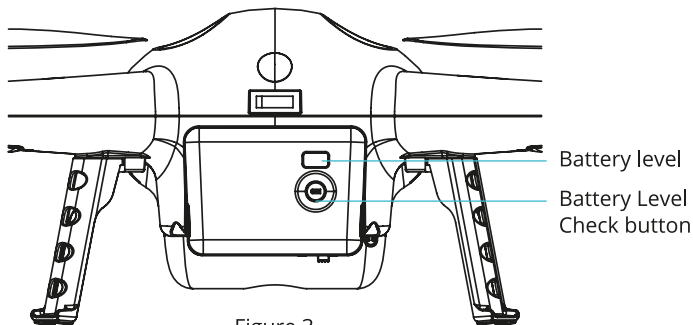

Figure 3
- Short press the Battery Level Check button (Figure 3). The screen displays appropriate battery level. Please fully charge the battery when the battery charge displayed is less than two bars.